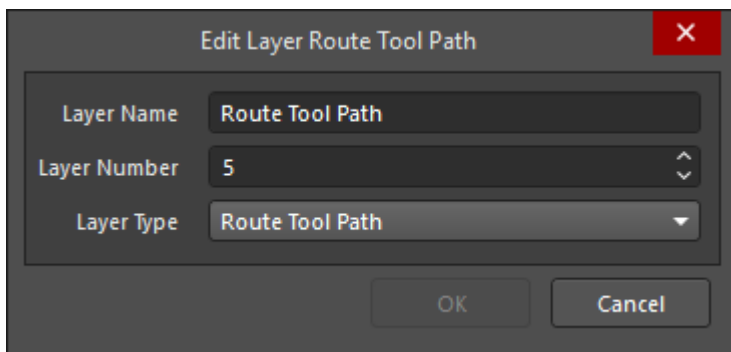

Figure 7. Mechanical Layer with a Route Tool Path type information
16. The *Layer Type* for this layer is set to **Route Tool Path** as shown in Figure 7.